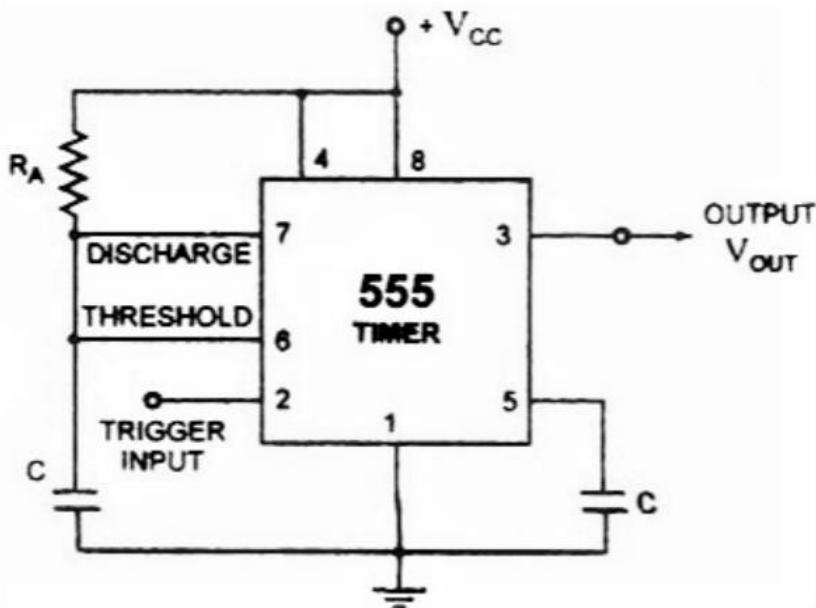

Fig. 3 Monostable Multivibrator
1. Build the circuit of Fig. 3 on bread board. Use general purpose IC-555 Timer. Connect a ceramic capacitor of value $0.01\mu F$ at Pin5 (control pin). Apply the DC voltage $6V$ from the DC voltage source to Pin 8 (V_{CC}) &